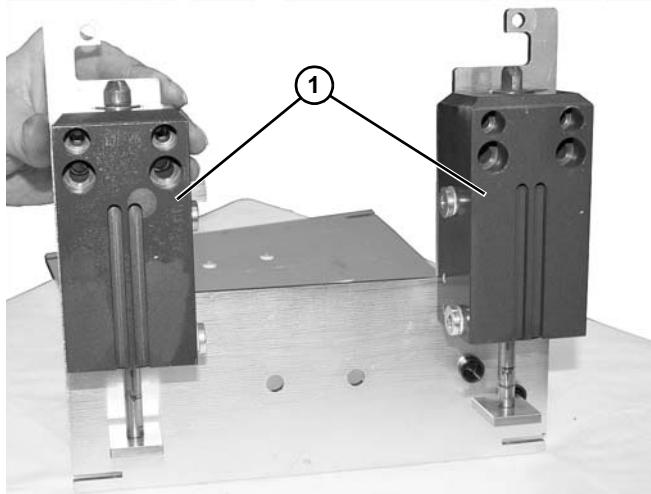

Figure 67
13. Remove lift unit(s) (**Figure 67, item 1**) from groove pins.